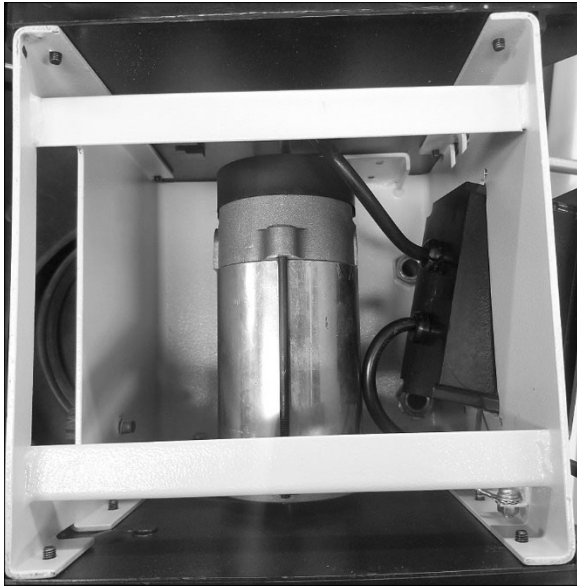

Figure 10-1
1. Use the existing angle measuring device to establish the tool's cutting edge (Figure 10-1).
4. Loosen the switch box and pull it outward to provide more space for turning the motor and accessing both brushes. See Figure 10-1.